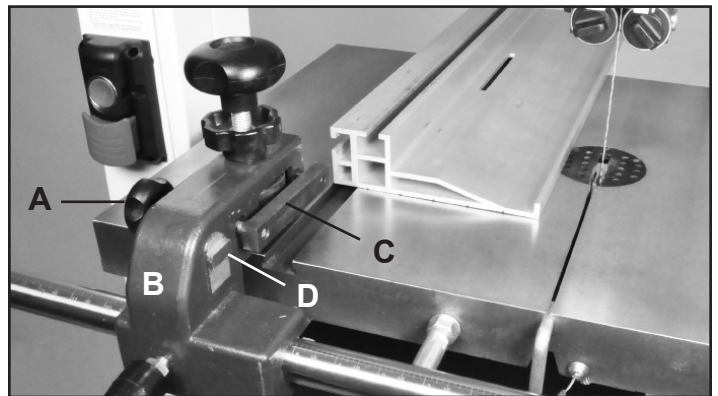

FIGURE 35
1. Loosen the side Handle (#7F, Fig. 35, A) which holds the rip fence against the Fence Carrier (#9F, B).
2. Slide the fence forward to remove it from the carrier's Sliding Block (#11F, Fig. 35, C).